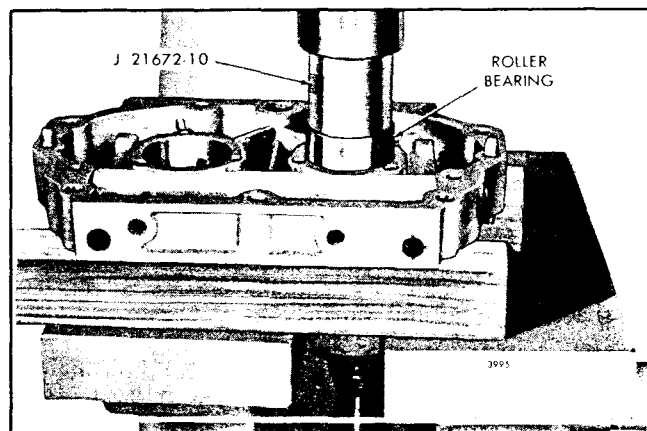

Fig. 13 - Installing Roller Bearing in Rear End
- a. Support the rear end plate (inner face down) on two wood blocks on the bed of an arbor press as shown in Fig. 13.